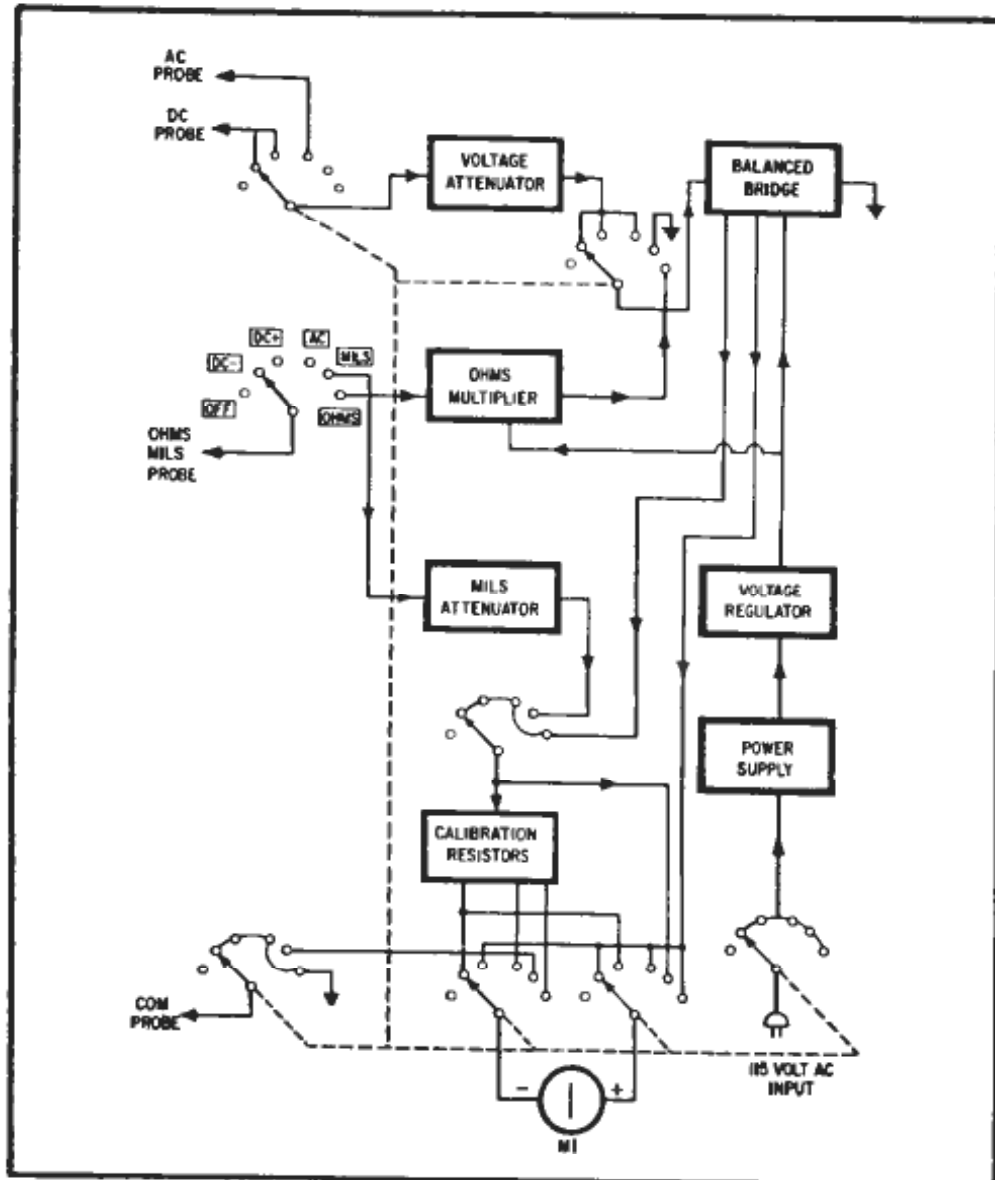

Figure 4-1. Electronic Multimeter AN/USM-116,
a. **GENERAL.** - To understand the principles upon which the operation of Multimeter AN/USM-116 is based, refer to figures 4-1 through 4-8 and to figure 5-3 during the following explanation.